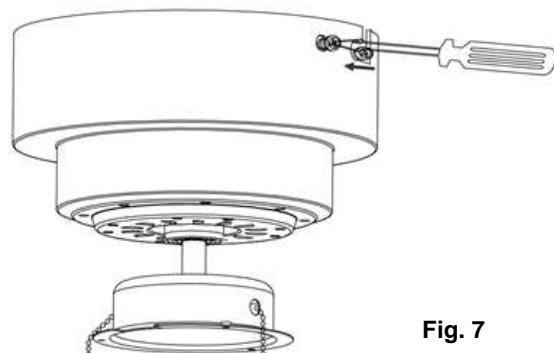

Fig. 7
- Cover the mounting bracket with the motor housing. Ensure all electrical wirings are tucked inside the slot of motor bracket and that they are not damaged during this step, and secure with screws. Fig. 7